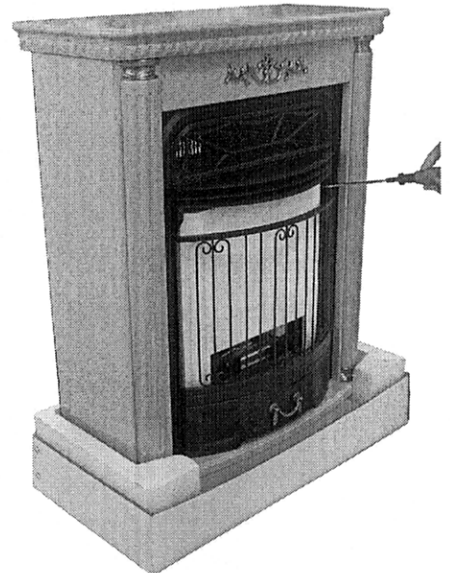

Figure 2
- Remove two fixing self-tapping screws on the screen, pull the screen upward a little bit and then pull it out (see Figure 2).